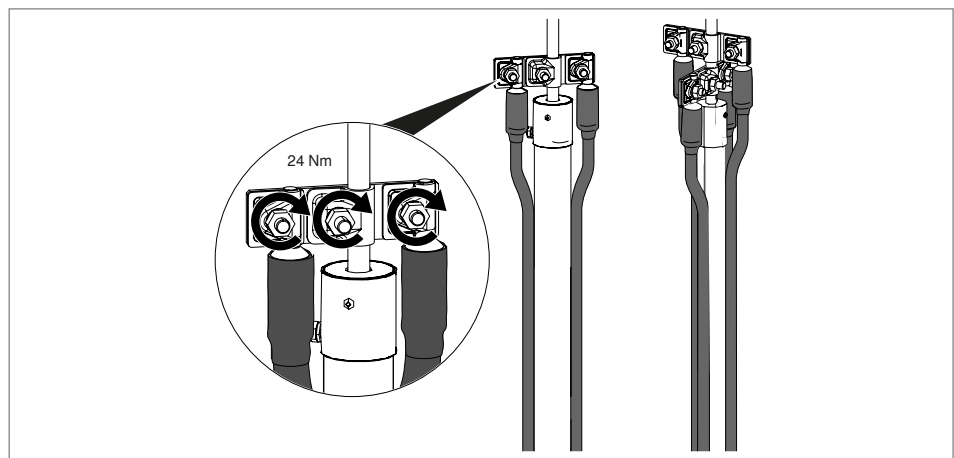

Fig. 37: Fastening multiple isCon® conductors on the mast
1. For 2 isCon conductors, use the connection plate for 2 conductors (type isCon AP2-16 VA). When connecting 4 conductors, mount 2 connection plates over each other (see Fig. 37).
3. Run the conductors downwards on the air-termination rod, ideally opposite one another (see Fig. 37).